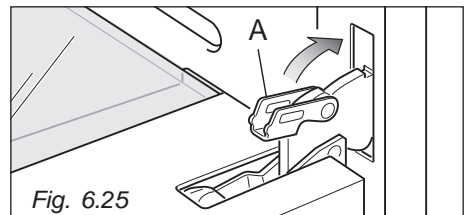

Fig. 6.25
- Open completely the oven door and close the lever "A" on the left and right hinges (fig. 6.25).